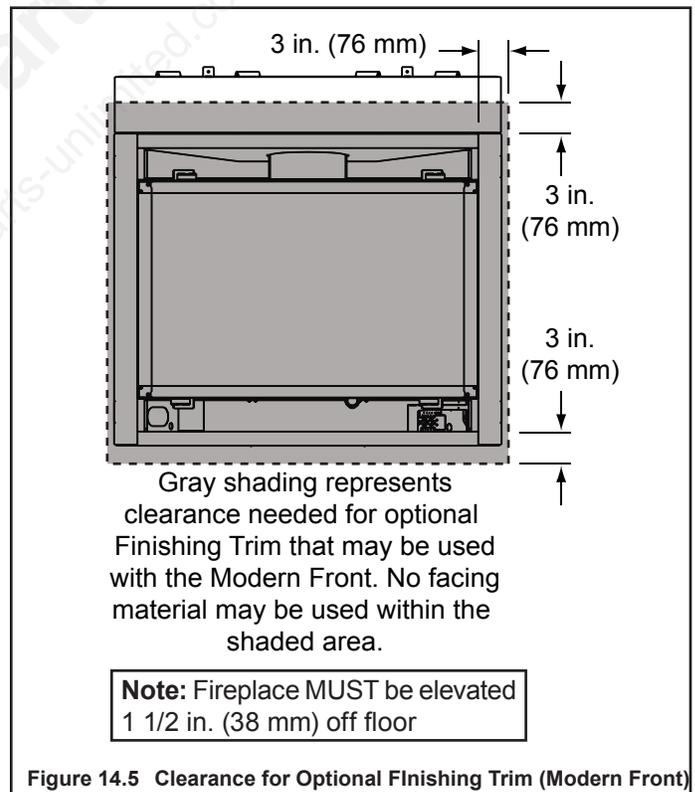

Figure 14.5 Clearance for Optional Finishing Trim (Modern Front)
**Note:** If using the optional finishing trim for the Modern Front facing, finish wall material must not be installed within 3 in. (76 mm) of the fireplace opening. See Figure 14.5.